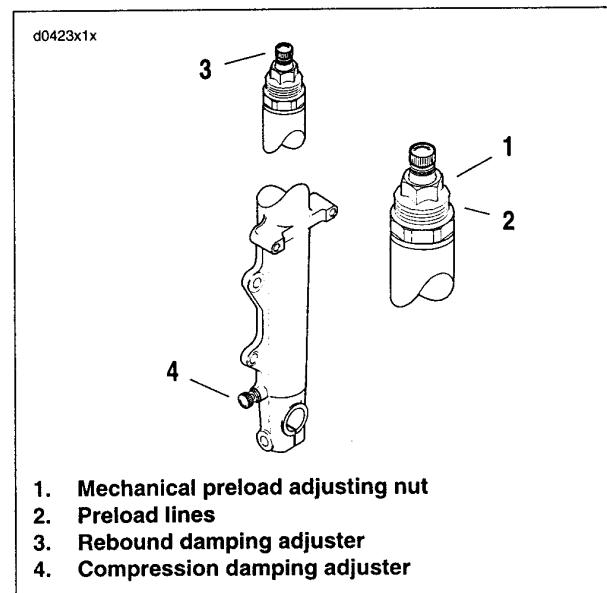

Figure 1-44. Front Fork Adjustments
6. See Figure 1-44. To adjust the front fork spring preload, turn spring adjusting nut (1) with a 7/8 in. wrench. Observe lines (2) on cylindrical portion of adjusting nuts to keep adjustments equal on both forks.